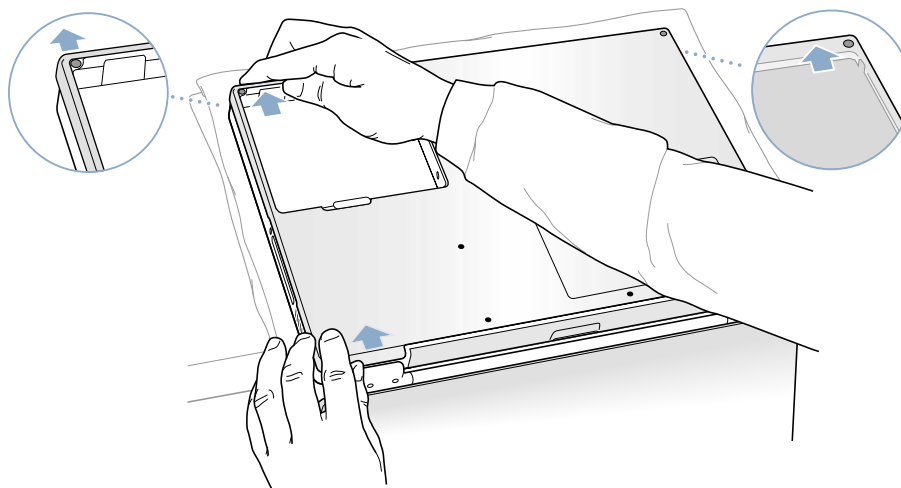

Figure 4
8. Carefully slide the bottom case away from you (**Figure 4**).